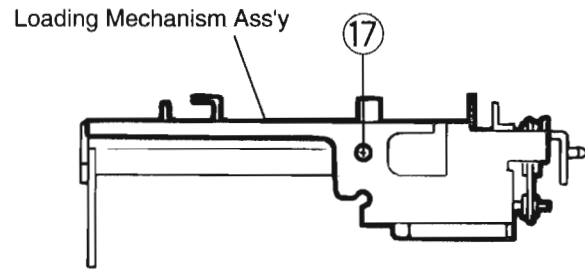

Fig.10
1. Disconnect the socket wires from connector CN101 and CN102 on the power regulator P.C.Board. (see Fig.10)
3. Remove the four screws ⑰ attaching power transformer.
2. Detach the loading motor assembly following the procedure mentioned in 9) (Unsolder the two wires D and remove the three screws ⑰ only)(see Fig.10~12).